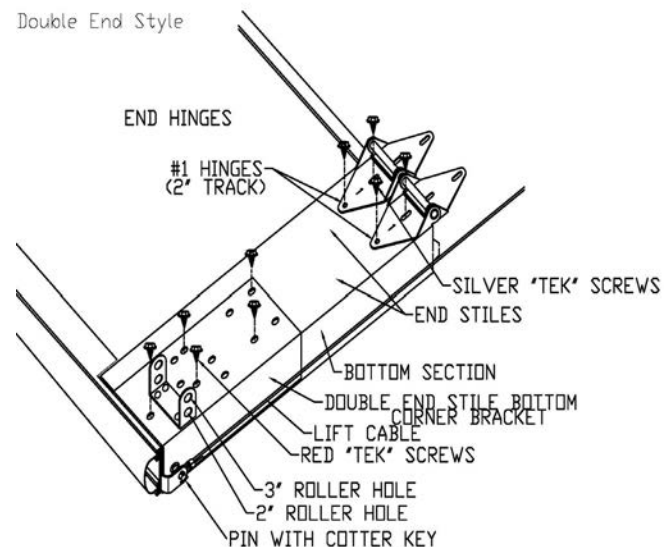

Figure 3
Step 2. Select the bottom section and place it face down on saw horses. Attach the lower leaf of the #1 hinges to the top of the center stiles using two 1/4" x 3/4" silver drilling "tek" screws. If the door has a 2" track- attach #1 hinges to the top of the end stiles, if your door has a 3" track-attach #3 hinges to the top of the end stiles. Hinges should always be placed with the hinge number on the lower leaf and the slotted holes on the upper leaf so the number can be read once the section is placed in the door opening. See notes below and figure 3.
Note: Some doors are manufactured with the double-end styles and require double-end hinges and long stem (7") rollers. See figure 3.